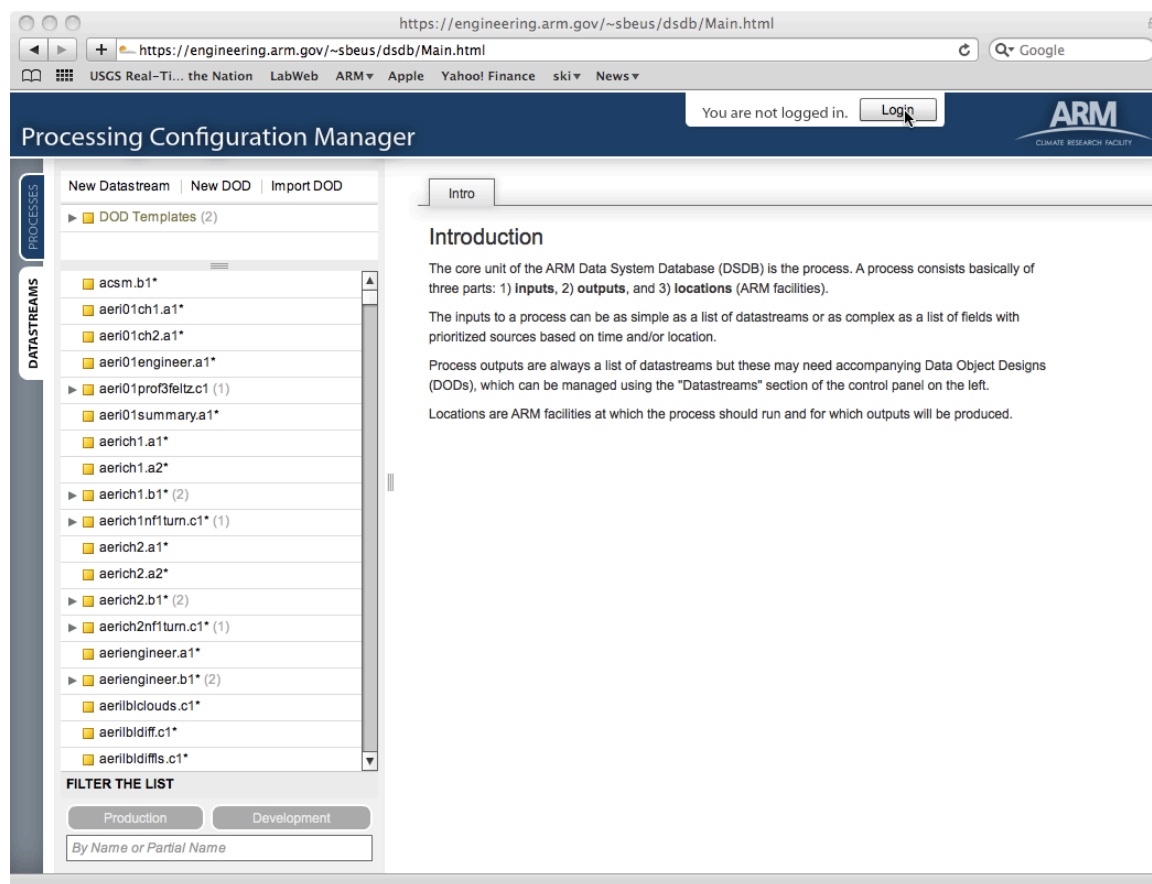
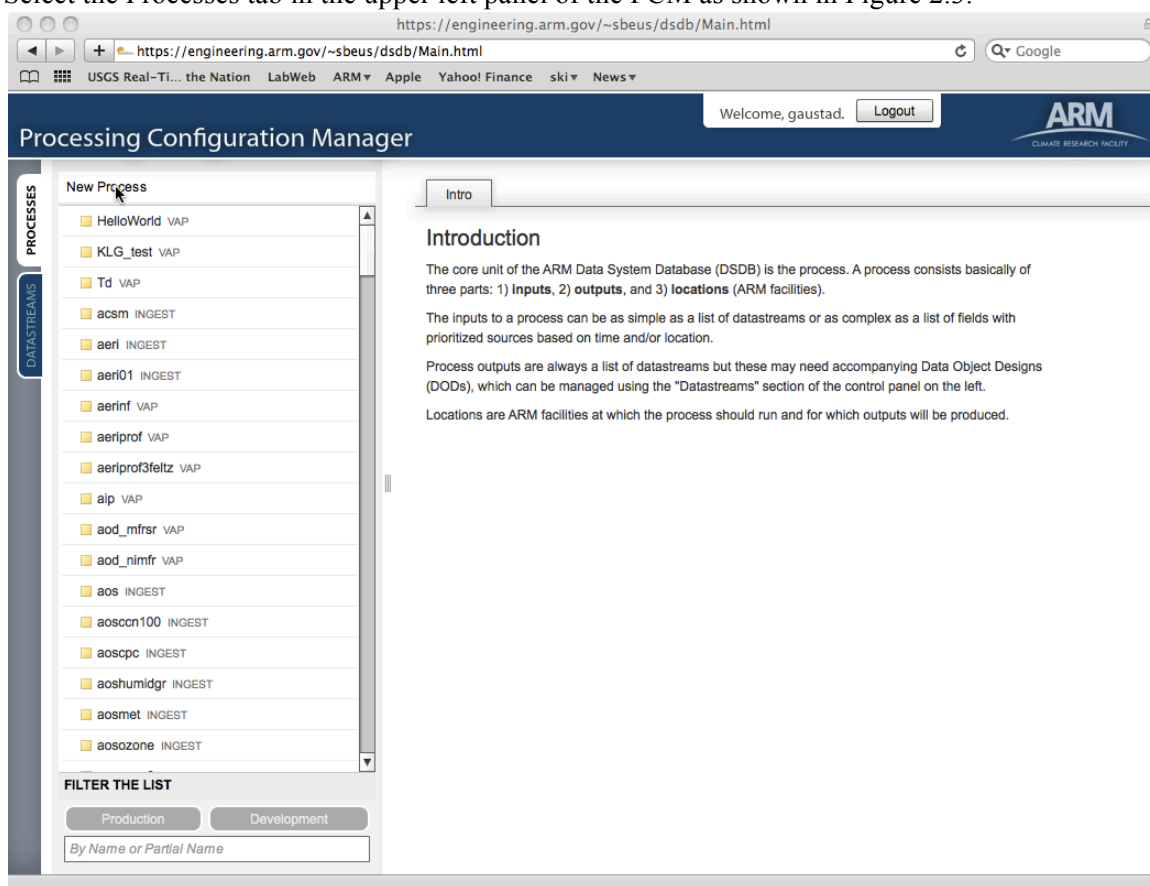

Figure 2.2. Login from the Process Configuration Manager
Figure 2.3. Selecting New Process Button to bring up Process Definition Form
page a user can view an existing process, or create a new process as shown in Figure 2.2. Processes are displayed for definition and updates via the Process Definition Tool (see Figure 2.3).
1. To open the Processing Configuration Manager (PCM), login at <https://engineering.arm.gov/pcm/Main.html> using your ARM wiki user name and password as shown in Figure 2.2.
2. Select the Processes tab in the upper left panel of the PCM as shown in Figure 2.3.